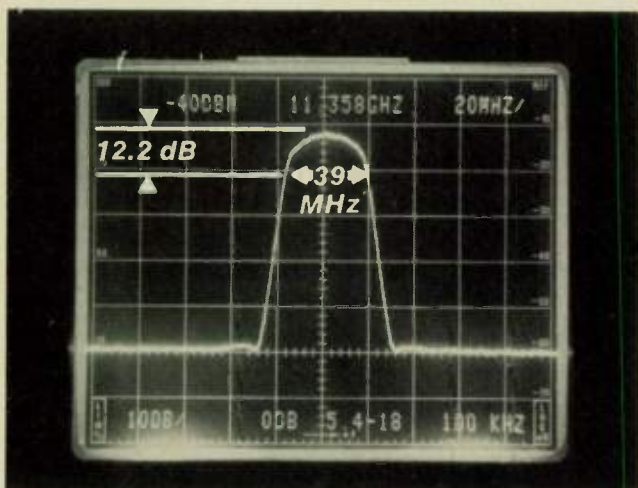

Fig. 17 Bandwidth measurement without a reference carrier.
**Display Without a Carrier:** The display level relative to the transmitted mean power is usually given by the radio manufacturer. The level difference can also be computed from  $10 \log (fs/4 \text{ kHz})$ . For a 30.086 MHz signaling rate, the result is  $10 \log (30.086 \text{ MHz}/4 \text{ kHz}) = 38.8$  dB for an 11.2 dB difference relative to 50 dB. Figure 17 shows a 38 MHz bandwidth for an 11 GHz radio.